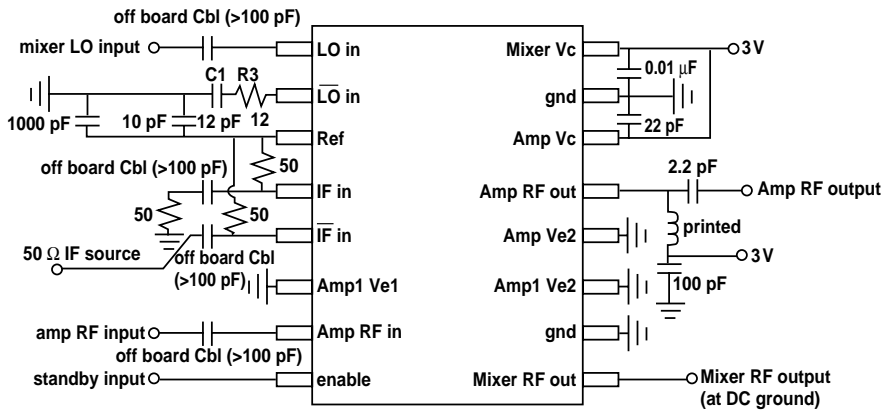

Figure 11. Test Board Configuration.
Circuit of Figure 11 with 1 k Pull up Resistors for the IFs and LO and RF Ports Terminated in 50 Ω .
- [1] Circuit of Figure 11 with IF and RF Ports Terminated in 50 Ω .
[2] As above but LO RC combination in Figure 11 changed from 12 Ω and 12 pF to 0 Ω and 2.7 pF (recommended use for > 1.75 GHz).
Circuit of Figure 11 with IF and LO Ports Terminated in 50 Ω .